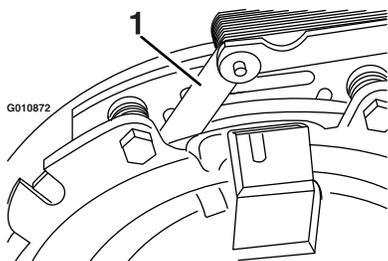
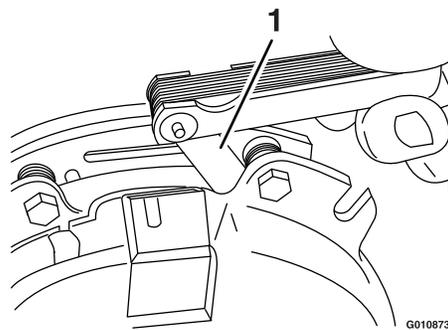

Figure 72
Figure 73
- E. Using a 0.25 mm (0.01 inch) thick feeler gauge, verify that a gap is present between the rotor and the armature face on both sides of the brake pole as shown in Figure 72 and Figure 73.